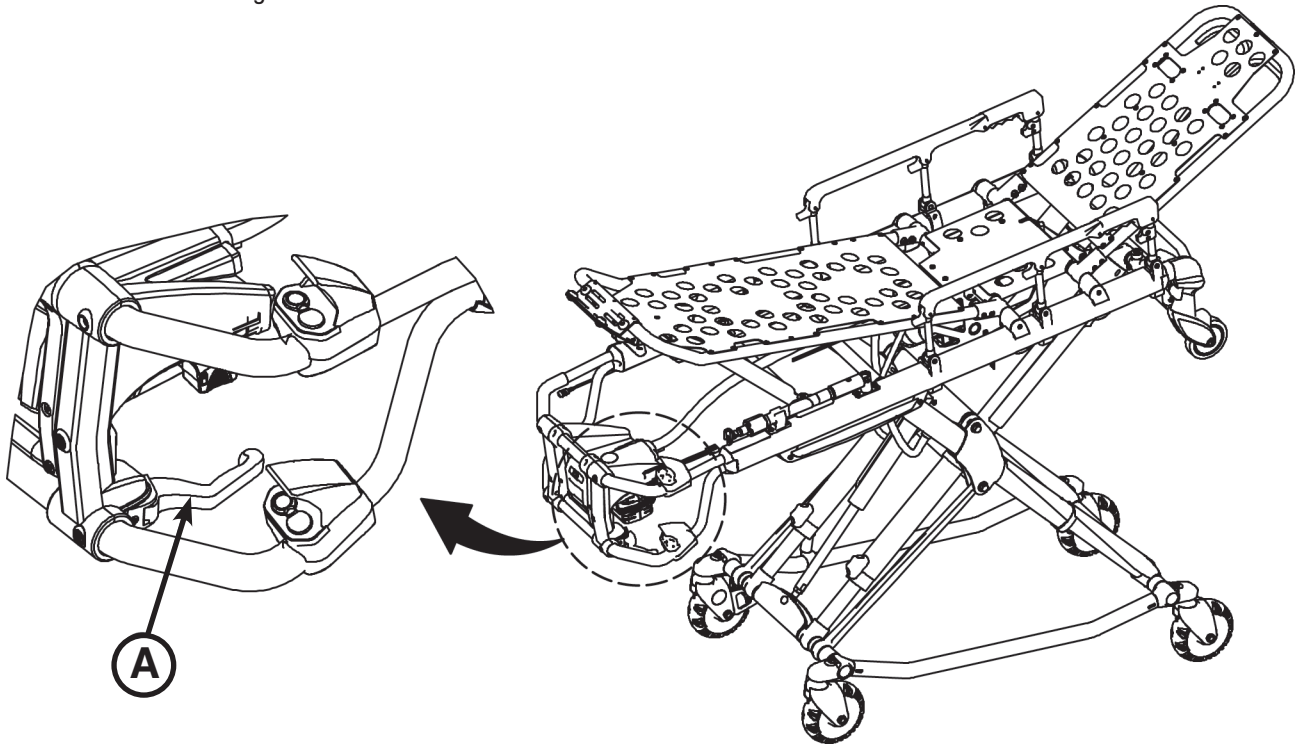

Figure 36: Manual Back-Up Release Handle
The **red** manual back-up release handle (A) is located along the patient left side of the lower lift bar at the foot end of the cot as shown in Figure 36.